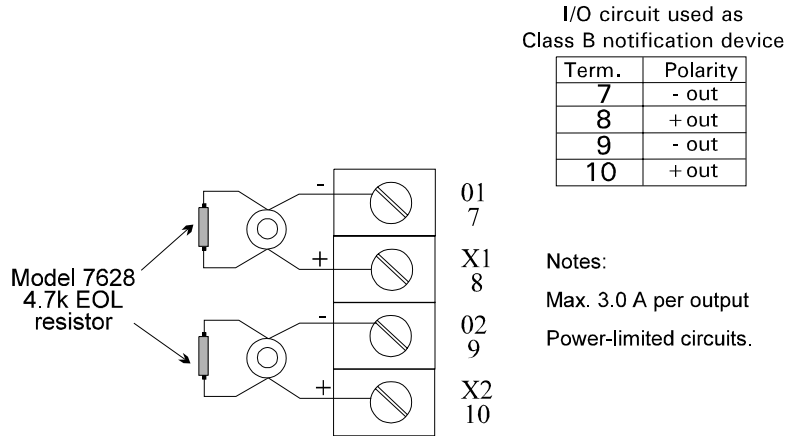

Figure 3-13. I/O circuit used for Class B notification devices
1. Wire as shown in Figure 3-13.